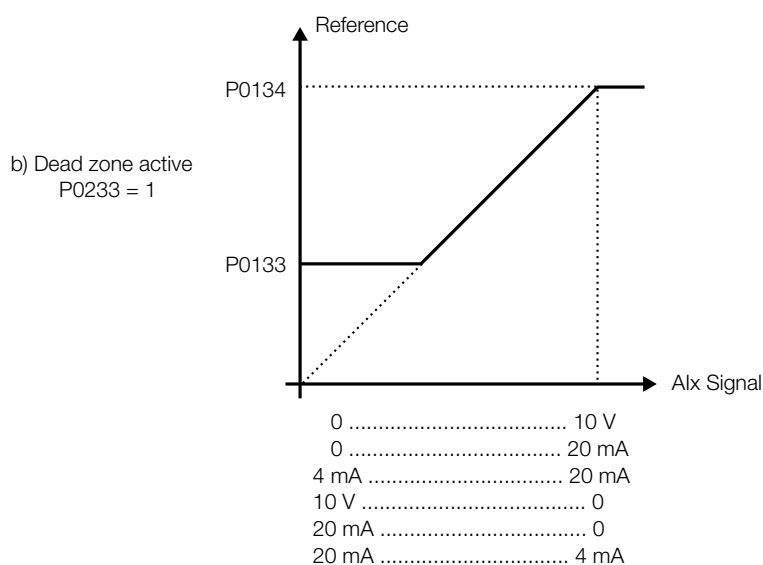

Figure 5.28: Analog input dead zone active
- If the analog input AI2 or AI4 is programmed for (-10 to +10) V (P0246 = 4), curves identical to those of the Figure 5.28 on page 5-44, only when AI2 or AI4 is negative will the direction of rotation be inverted.